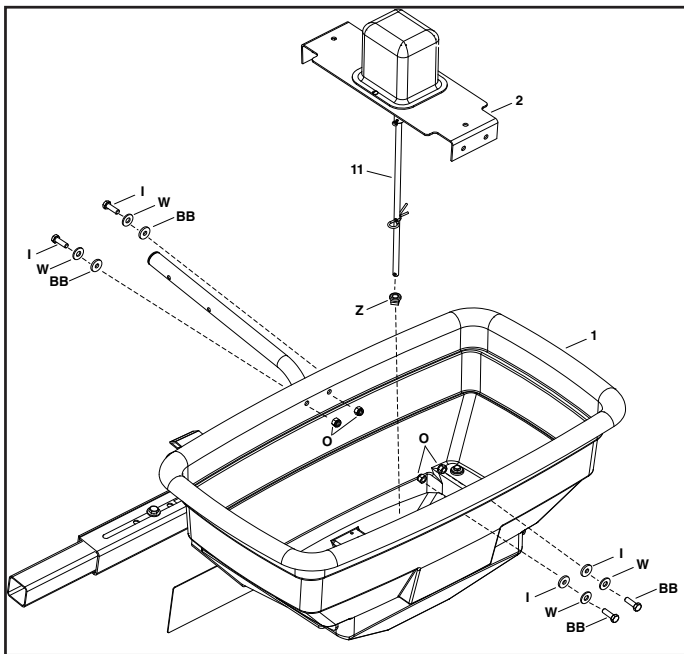

FIGURE 14
STEP 14: (SEE FIGURE 14)
- Install the delrin bushing (Z) into the bottom of the hopper (1)
- Take the motor mount assembly and place it inside the hopper with placing the impeller shaft (11) through the delrin bushing (Z) and hopper (1). Make sure the motor harness is on the side closet to the mower.
- Line up the holes on the motor mount bracket (2) and the hopper (1).
- Install four hex bolts (I), washers (W), and nylon washers (BB) from the outside of the hopper (1) through the motor mount bracket (2).
- Secure the four hex bolts (I) with four nylock hex nuts (O) and then tighten hardware.